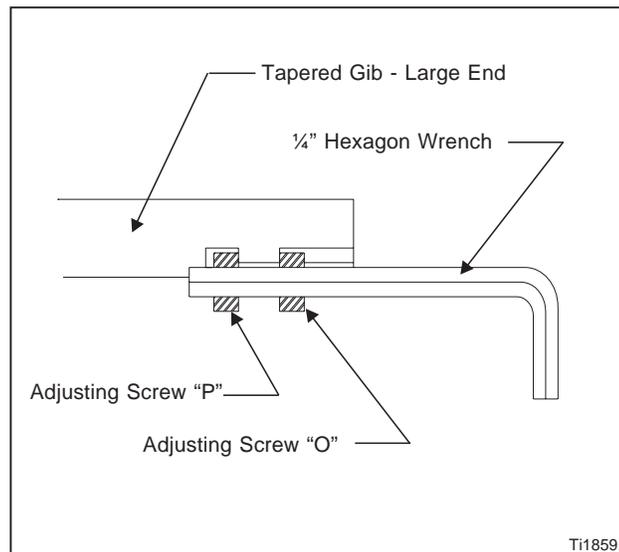

Figure 2.25 - Gib Adjustment Illustration
2. Insert 1/4" hex wrench through screw "S" and into screw "K", Figure 2.25 .